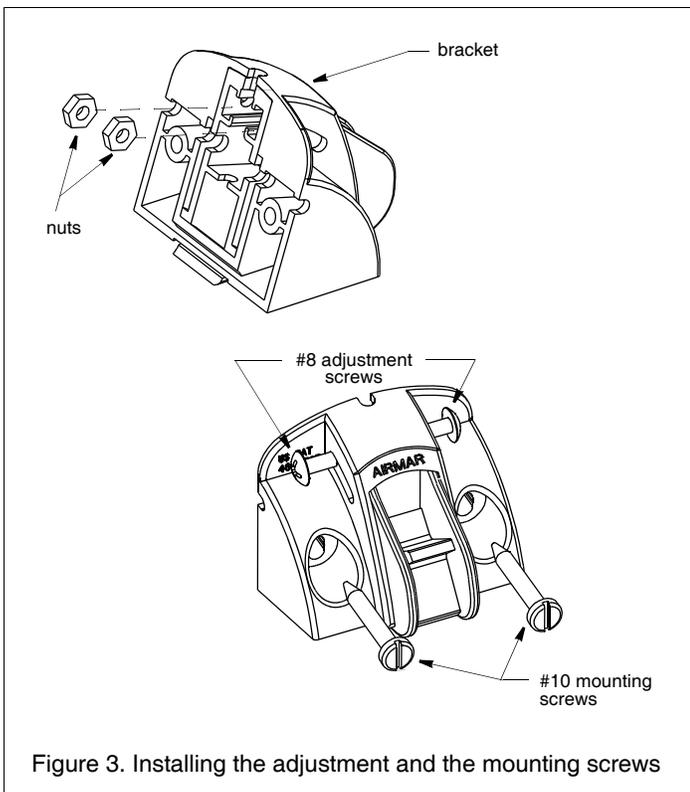

Figure 3. Installing the adjustment and the mounting screws
2. Insert the two nuts into the slots in the back of the bracket. Install the #8 adjustment screws (see Figure 3). *Do not tighten the screws at this time.*
5. Apply marine sealant to the two, #10 x 1-1/4", mounting screws to prevent water seeping into the transom. Screw the sensor to the hull (see Figure 3). Check again that the bottom edge of the paddlewheel assembly (not the bracket) is flush with the bottom of the hull. If necessary, slide the bracket up or down. Tighten the screws. *Do not over tighten.*